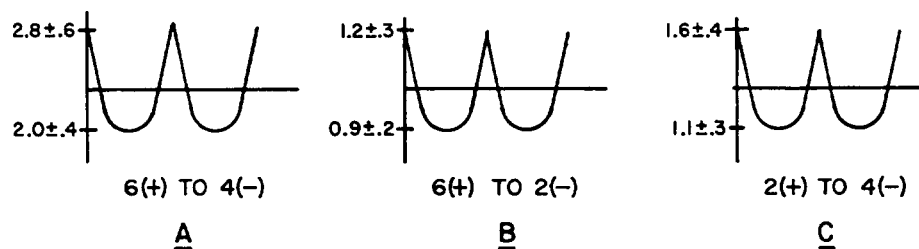

FIGURE 5-1
- 7) Connect the scope from Pin 6(+) to Pin 4(-). Adjust both the N/S and the E/W pots fully CW or fully CCW to obtain the waveform shown in Figure A below. Observe the waveforms from Pin 6(+) to 2(-) and from Pin 2(+) to 4(-). They shall appear as shown in figure 5-1 below.